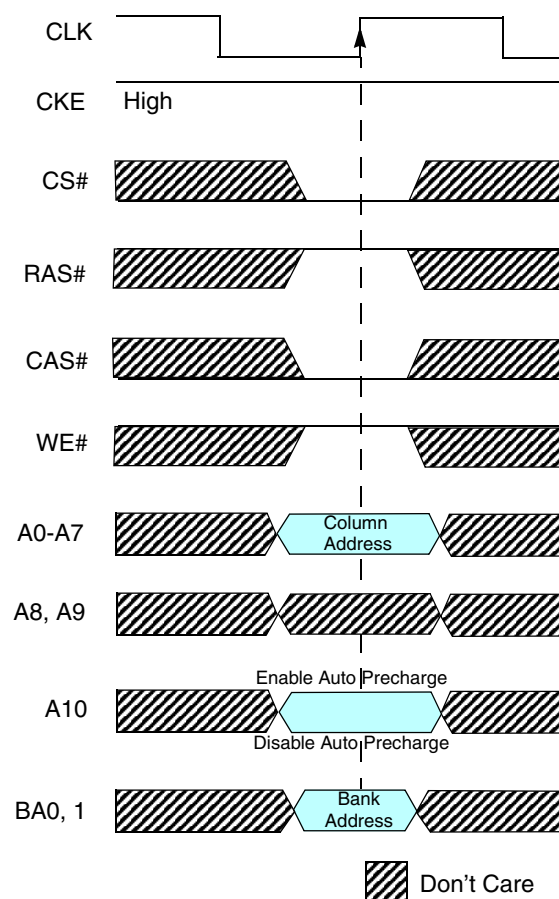

Figure 2. Example of the Read Command
Commands are issued to the SDRAM by driving the chip select (CS), row address strobe (RAS), column address strobe (CAS), and write enable (WE) lines. When the CS line is driven low along with CAS, RAS, and/or WE, the SDRAM interprets this as a command. An example of a read command is shown in Figure 2.